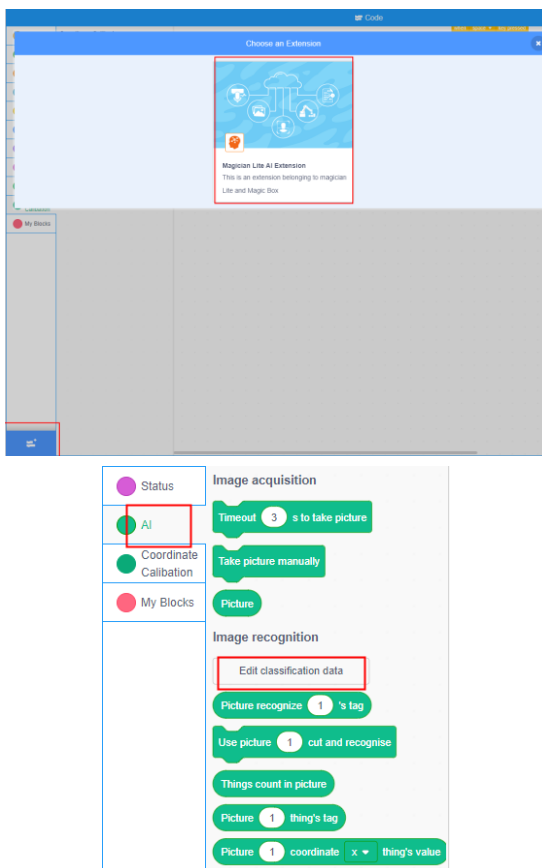

Figure 2.6 New classification data
1) Add AI expansion module, select "AI" tab, and click "New classification data", as shown in Figure 2.6.